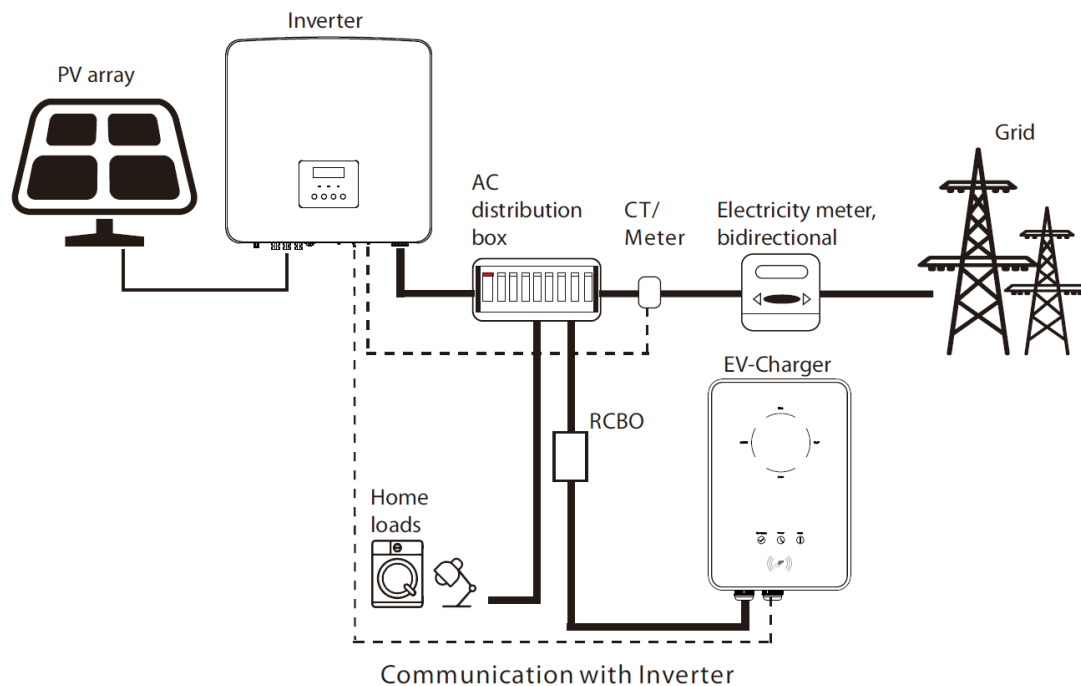
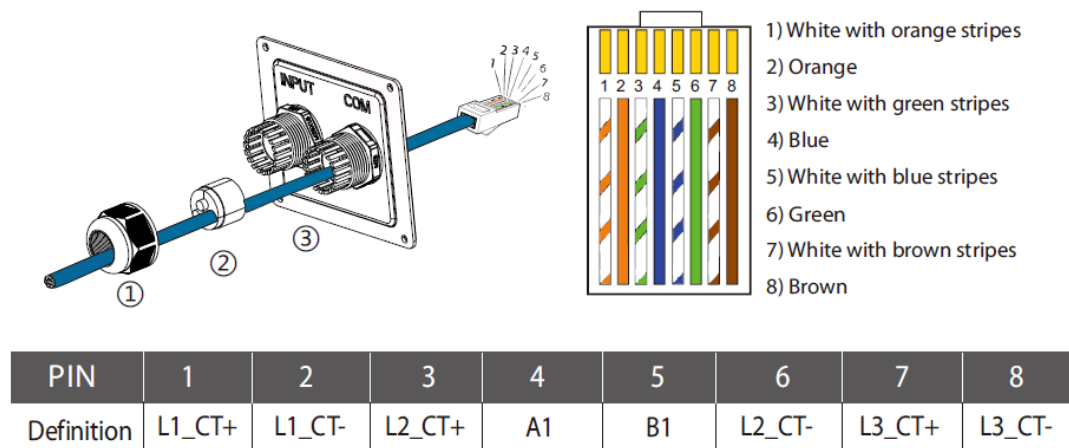

Figure 9 EVC Communicates with SolaX Inverter
Figure 10 Home and Commercial Edition EVC RJ45 Terminal Pin Definition
- The communication cable can be connected to the RJ45 port as shown in Figure 9, or to the green terminal's Pin 1 (A1) and Pin 2 (B1) as illustrated in Figure 10.